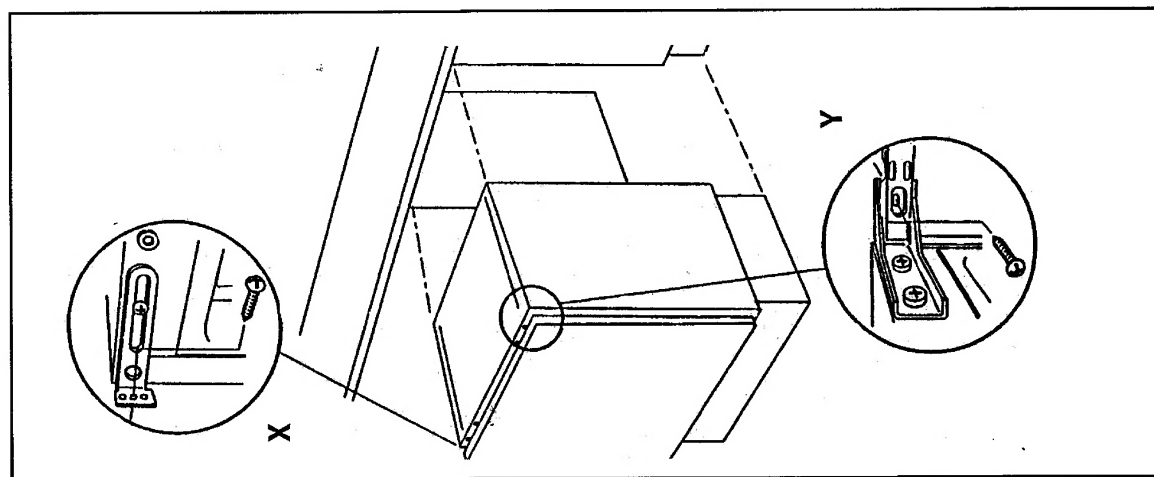

Fig. 12
3. **WARNING!** Before applying the hinges A, move the threaded adjuster completely to the bottom (see Figs 12 & 13) and put the black cap removed from hinge B on the lower hinge A.